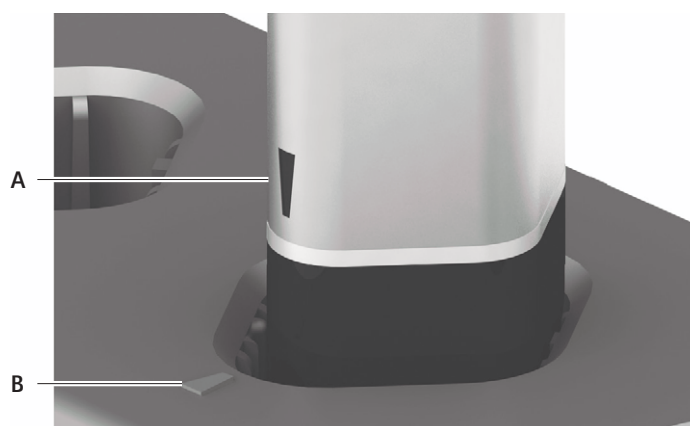

Fig. 1 Insert battery into charging bay
- ▶ Insert the battery into the charging bay with the contacts pointing downwards, so that the marking on the battery A corresponds with the marking on the charging bay B, see Fig. 1.